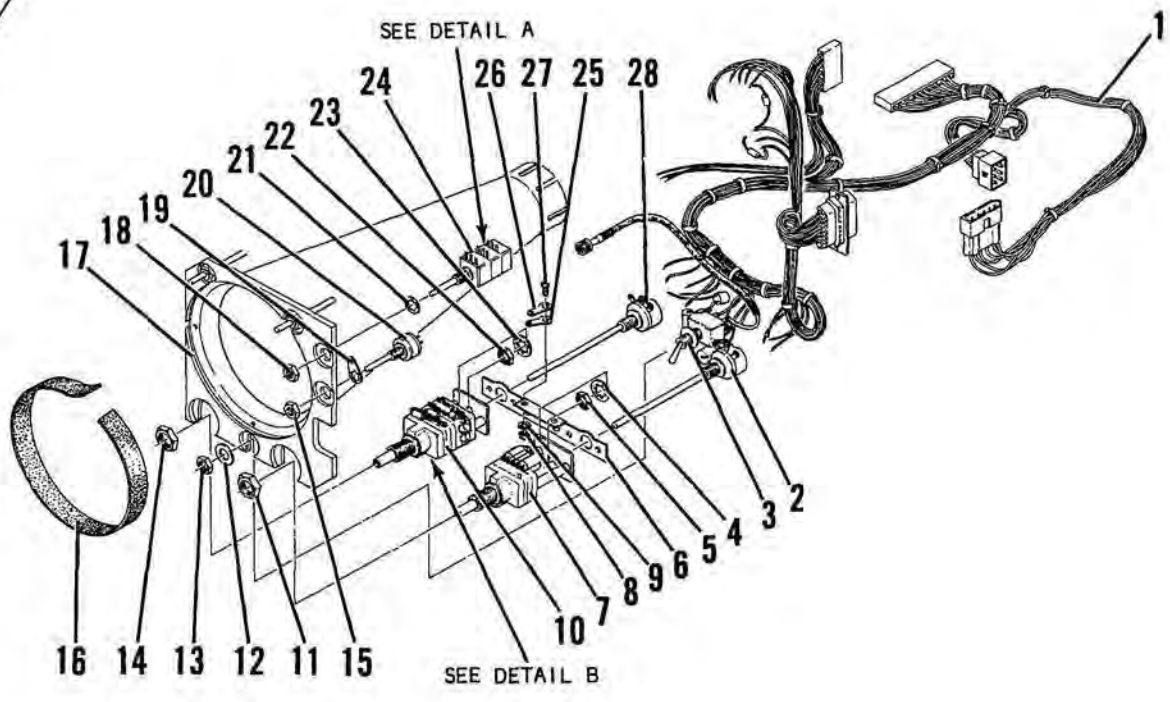

Figure 6-8 Spectrum Analyzer Switches Disassembly and Reassembly
1. Four Phillips screws (14) and four lock washers (13) securing Inverter PC Board cover (5) to frame.
2. Four Phillips screws (6) and four lock washers (7) securing Inverter PC Board to PC board cover (5).
3. Four socket screws (3) and (37) (loosen only) securing control shafts (1) with .050" Allen wrench. Slide control shafts up and off of R4011 and R4014.
4. Inverter PC Board away from frame to gain access to V9201-P1 and P4303 (9).
- M. REMOVAL OF HORIZONTAL SWEEP SWITCH (7) (Fig. 6-8) by removing:
1. Hex nut (11) securing Horizontal Sweep Switch to front panel (17).
2. Hex nut (14) securing Vertical Gain Switch to front panel.
3. Hex nut (13) and lock washer (12) securing AC/OFF/DC Switch to front panel. Rotate entire assembly of switches out away from panel.
5. Hex nut (5) and lock washer (4) securing Potentiometer (2) to switch assembly.
6. Nut (8), lockwasher (9), and screw (27) securing lugs (25) and (26) to mounting channel (6).
8. Switch off Potentiometer shaft (2).
- N. REMOVAL OF VERTICAL GAIN SWITCH (10) (Fig. 6-8) by removing:
1. Hex nut (14) securing Vertical Gain Switch to front panel.
2. Hex nut (11) securing Horizontal Sweep Switch to front panel.
3. Hex nut (13) and lock washer (12) securing AC/OFF/DC Switch (3) to front panel. Rotate entire assembly of switches out away from panel.
5. Hex nut (22) and lock washer (23) securing Potentiometer (28) to switch assembly.
7. Switch off Potentiometer shaft (28).
- O. REMOVAL OF AC/OFF/DC SWITCH (3) (Fig. 6-8) by removing:
1. Hex nut (13) and washer (12) securing Switch to front panel.
2. AC/OFF/DC Switch and washer (3) from front panel (swivel switch out).
- P. REMOVAL OF VERT/ANALY DISPR CONTROL (24) (Fig. 6-8) by removing:
1. Hex nut (18) securing Control to front panel.
2. VERT/ANALY DISP Control and washer (21) from front panel (swivel control out).
- Q. REMOVAL OF HORIZONTAL CONTROL (20) (Fig. 6-8) by removing:
1. Hex nut (15) securing Control to front panel.
2. Horizontal Control (20) and lug (19) from front panel (swivel control out).